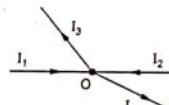

Fig. 1.11.1 Junction point
- Consider a junction point in a complex network as shown in the Fig. 1.11.1. The currents  $I_1$  and  $I_2$  are positive as entering the junction while  $I_3$  and  $I_4$  are negative as leaving the junction.